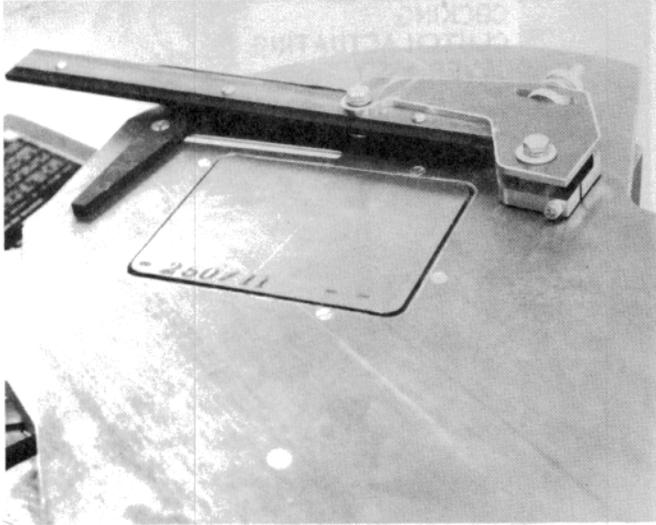

Figure 63 – Throwing Arm Cocked Position
- 5.1.4 Pull the throwing arm to the correct cocked position. (The correct cocked position is where the rubber rail is parallel with the long slot in the platform shown in Figure 63).